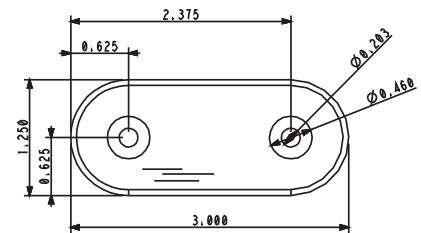

Figure 2. Flange dimensions
- Install screws (provided) into predrilled holes. See Figure 2.